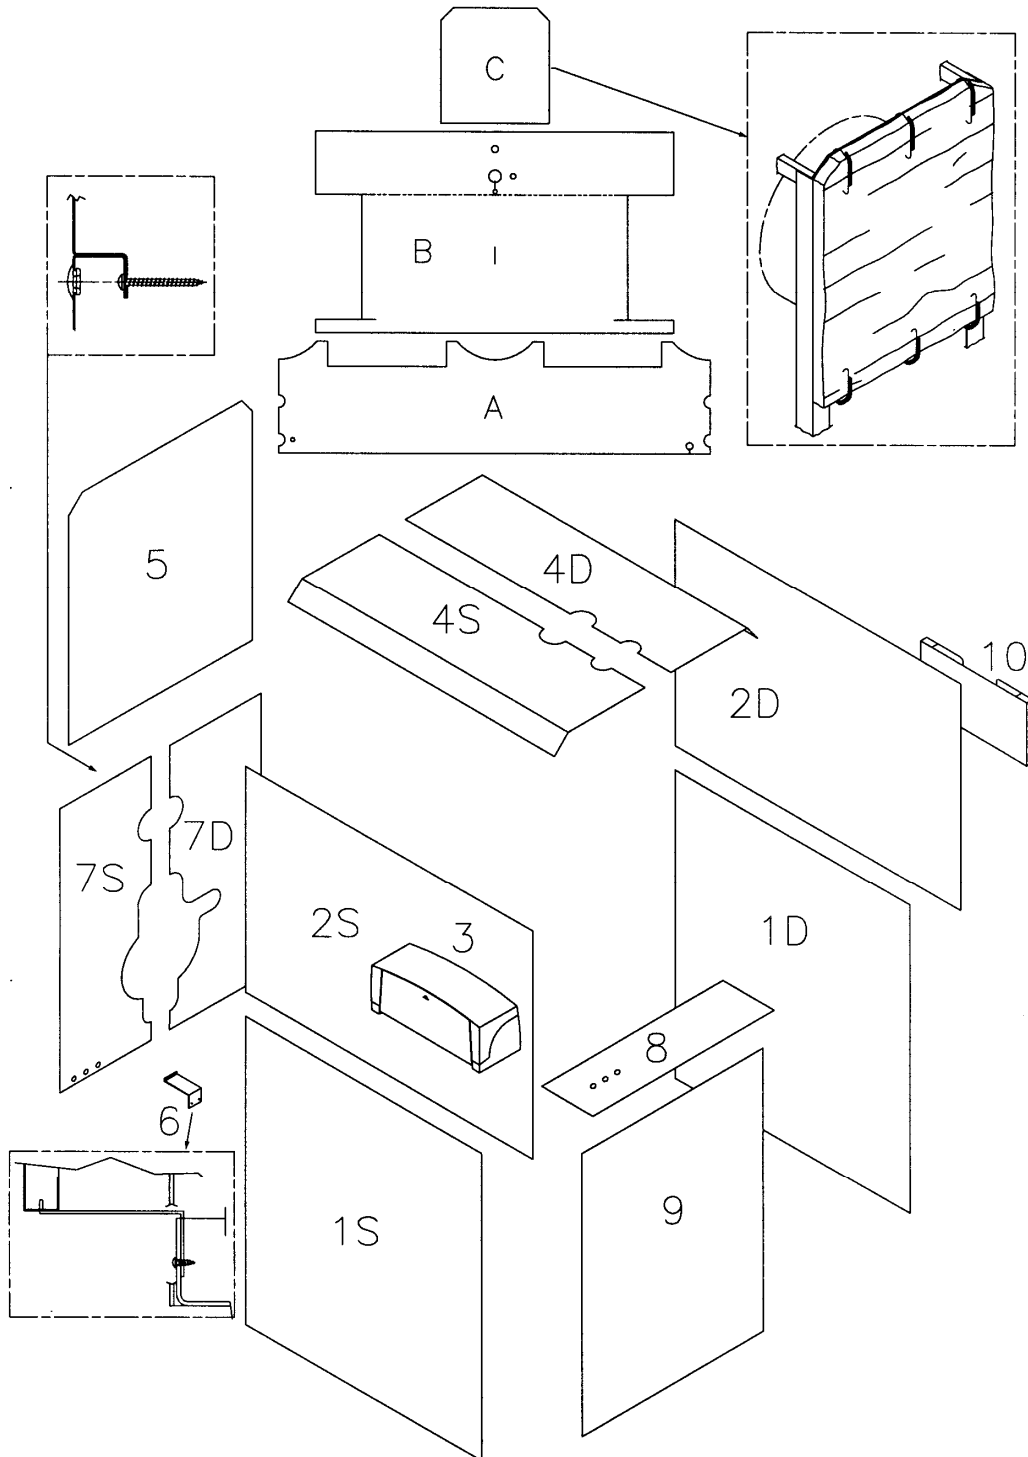

Fig. 5
5.3 BOILER CASING mod. 160 GT/ JB-270 GT/ JB (Fig. 5)
- Mount the panel (5); attach the support bracket (6) to the corner of the frame base, position the panel (7D) and then the panel (7S) with fairlead attached to its side panels. Screw on tightly and plug the passage holes with the appropriate caps. Attach the front/central panel with fairlead (8) and the front/lower panel (9). Finally, screw the document holder (10) on to the opposite side of the control panel.